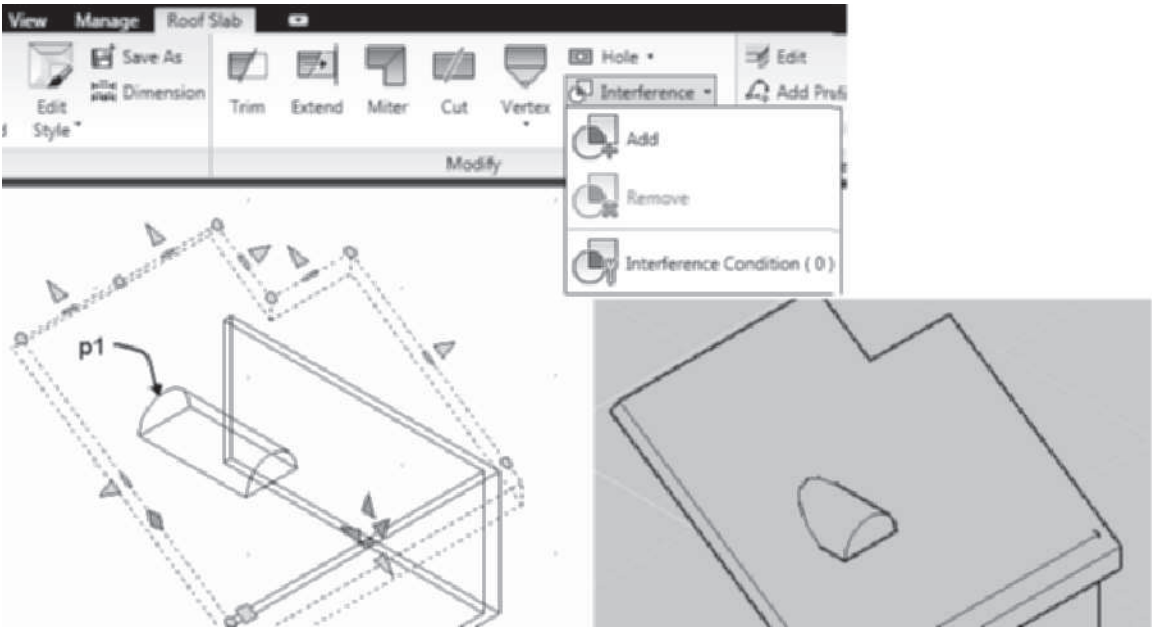

FIGURE 7.46 Mass element added to roof using *Interference Condition > Add*
The **RoofSlabInterferenceAdd** command allows you to **Add** or **Subtract** other AEC Objects to a roof slab. The **Add** option can be used to add a mass element to the roof slab as shown in Figure 7.46. The subtract option removes the mass element from the roof slab. These elements can be used to add or subtract their shape to or from a roof slab. The subtract option could subtract from the roof slab a mass element created to represent a chimney. If you move the mass element after an addition or subtraction, the roof slab will be modified based upon the new position of the objects. Access the **RoofSlabInterferenceAdd** command as shown in Table 7.15.
When you select a roof slab and choose **Add** from the **Interference** flyout menu, you are prompted to select an object. The AEC object can be a mass element that is added to the roof slab. The mass element in Figure 7.46 was added to the roof slab as shown in the following workspace sequence.
Select objects to add: 1 found *(Select the mass element at p1 as shown at the left in Figure 7.46.)*
*(Select **Hidden** from the flyout menu of the **Visual Styles** panel of the **View** tab to view the union as shown at the right in Figure 7.46.)*